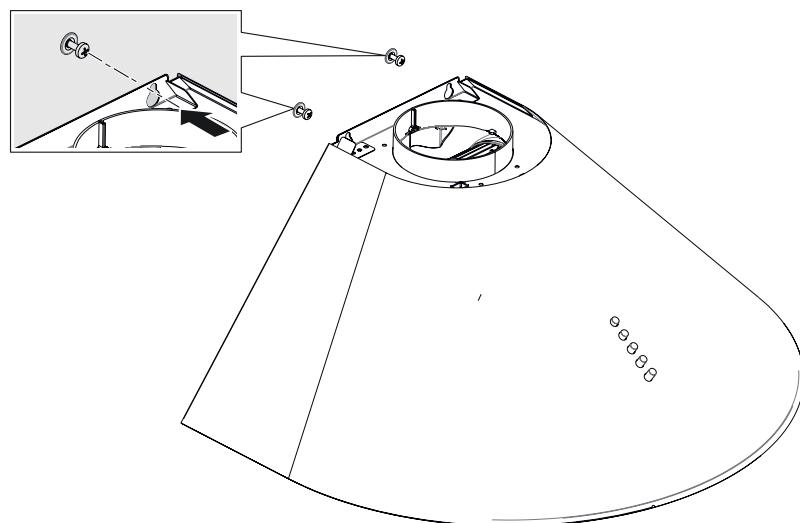

Fig. 12
1. ➤ Hold the appliance by its body and place it on the suspension screws on the wall and tighten the screws (Fig. 12).